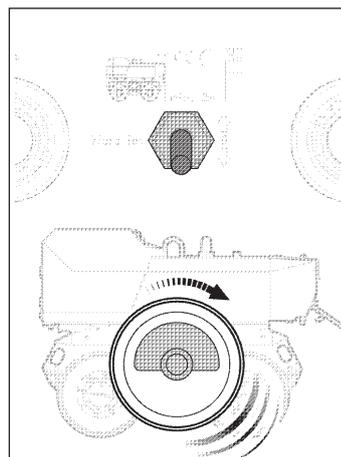

Fig. MB7: Vibration reverse
- ➔ Switch the vibration function to backward (Fig. MB7).